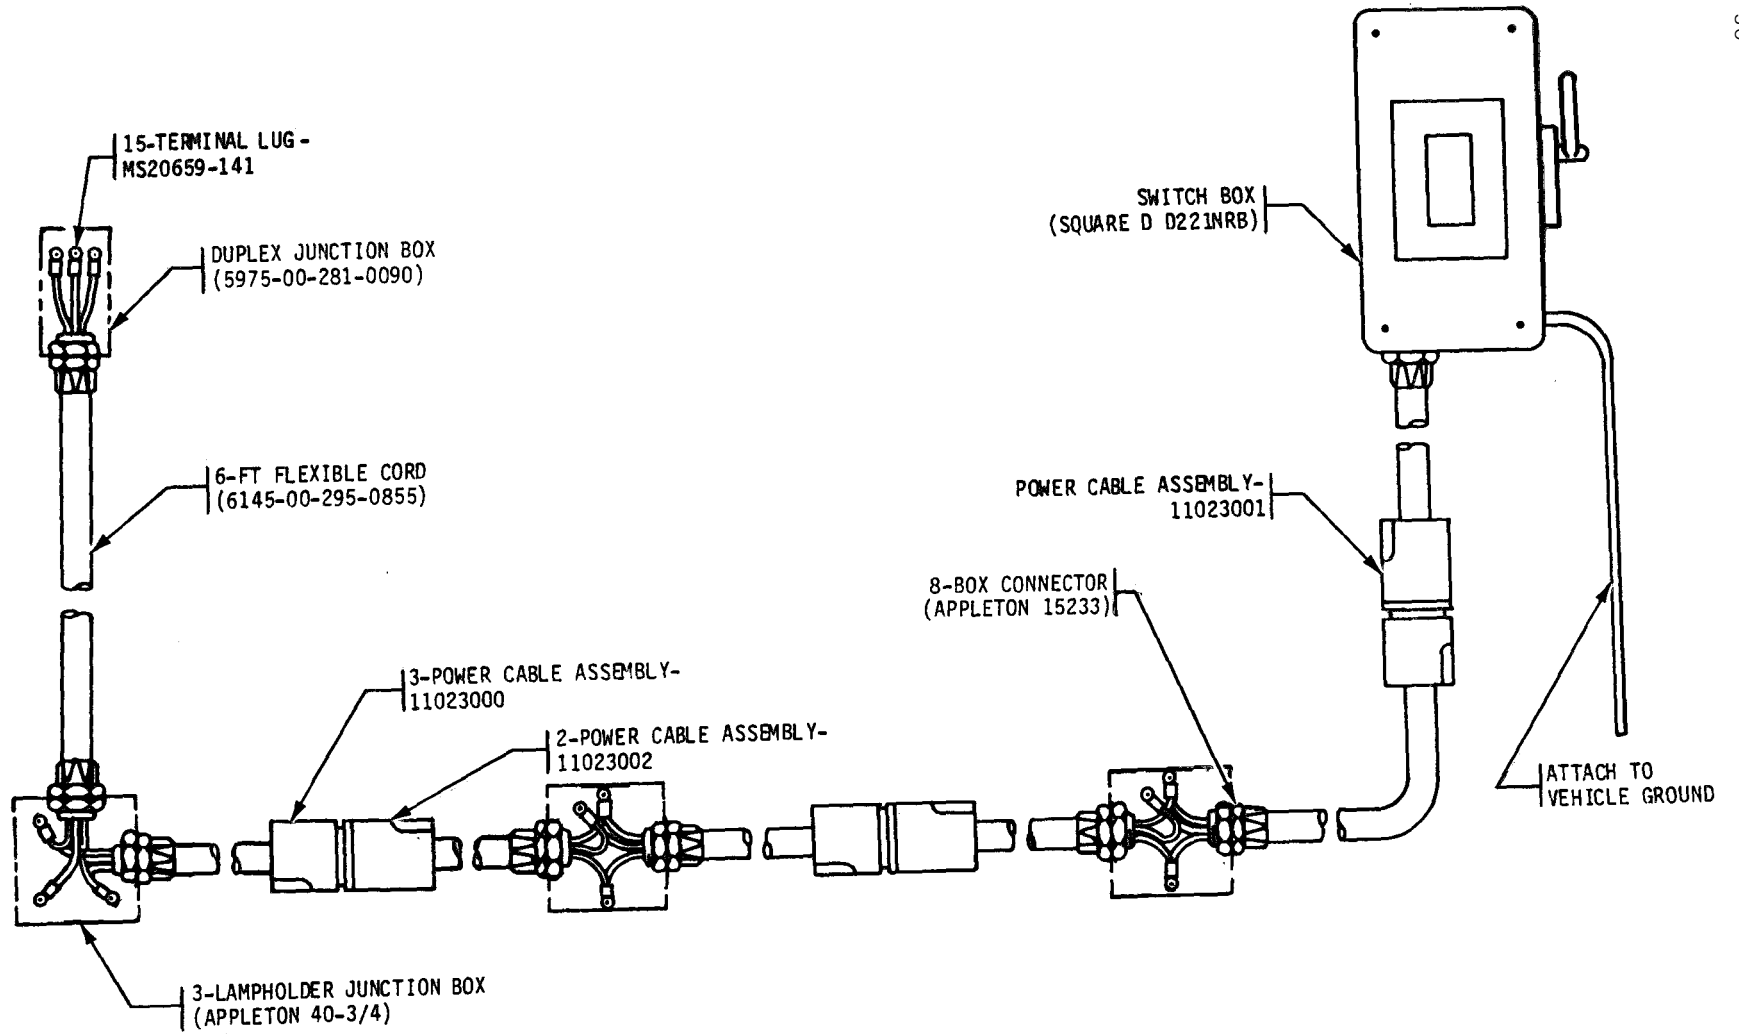

Figure 13. Electrical Installation, M35A2.
(7) Remove one knockout slug from duplex junction box (5975-00-281-0090) in line with the second bow in accordance with figure 9. Remove two knockout slugs from each lampholder junction box [Appleton 40-3/4] in accordance with figures 8 and 9. Install seven box connectors (Appleton 15233), one in duplex junction box and two in each lampholder junction box in accordance with figure 13. Install jam nuts on box connectors.
(9) Install 6 feet of flexible cord (6145-00-295-0855) through duplex junction box (5975-00-281-0090) and lampholder junction box (Appleton 40-3/4) on second bow. Refer to figures 8, 9 and 13. Strip a 1-1/2-in. length of outside insulation from flexible cord on inside of each junction box. Strip 1/2-in. of insulation from each individual wire and twist wire to fit three terminal lugs (MS20659-141). Install and crimp terminal lugs in place in accordance with figure 13.
(10) Connect terminal lugs (MS20659-141) to grounded duplex receptacle (5935-01-058-9269) and secure grounded duplex receptacle to duplex junction box (5975-00-281-0090) with screws provided with grounded duplex receptacle. Install duplex junction box cover (Appleton 2510) with screws provided in duplex junction box cover.
(11) Install nine terminal lugs (MS20659-141) in lampholder junction boxes (Appleton 40-3/4) by stripping 1/2-in. of insulation from each individual wire. Twist wires to fit terminal lugs (three on each box) and crimp in accordance with figure 13.
(13) Tighten all box connectors (Appleton 15233) to secure cords in junction boxes and switch box. Refer to figure 13.